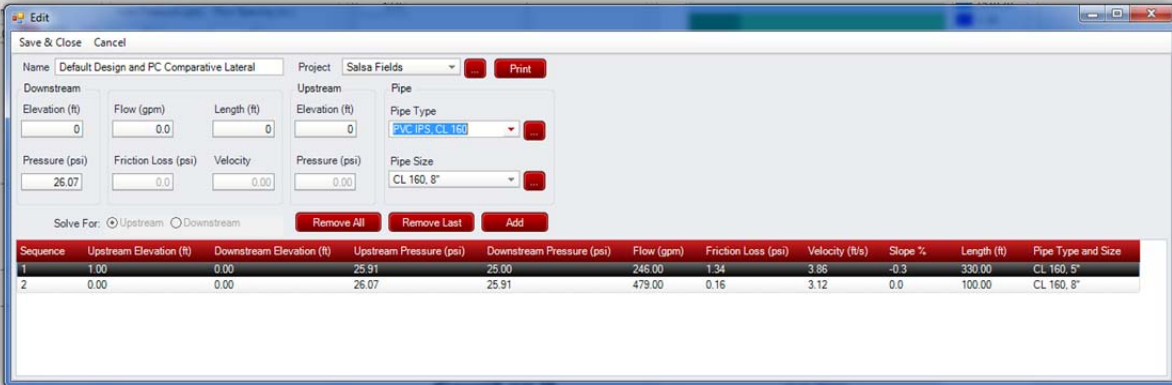

Figure 8 - Mainline Data Input Screen and Results
- When all blocks have been designed, a mainline may be designed to service each of the blocks. Choose “Mainline” from the Maintenance pull-down menu, or from the Mainline Icon on the toolbar. Then choose “New,” provide a name for the mainline design, and then associate it with a project so that it may be printed along with the block designs when Print Project is chosen. Now enter the elevation, flow, length, pressure, pipe type and pipe size information required for each mainline segment, beginning with the block furthest from the pump. The mainline report may then be printed and/or it may be saved. Figure 8 shows the data input screen for a two segment mainline that has been sized to supply water to the two blocks used in the previous examples as reported in Figures 11 and 12. In this example, the pump station is located 100 feet from the 2nd block.